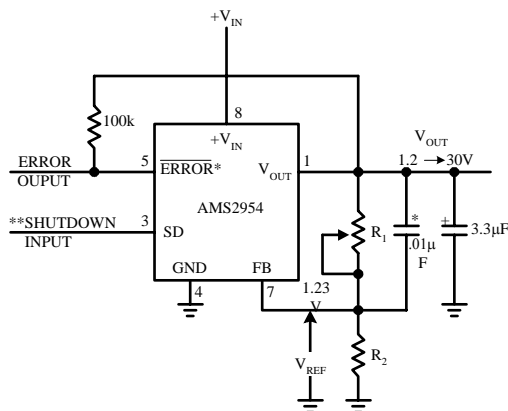

FIGURE 2. Adjustable Regulator
*When $V_{\text{IN}} \leq 1.3\text{V}$ the error flag pin becomes a high impedance, and the error flag voltage rises to its pull-up voltage. Using V_{out} as the pull-up voltage (see Figure 2), rather than an external 5V source, will keep the error flag voltage under 1.2V (typ.) in this condition. The user may wish to drive down the error flag voltage using equal value resistors (10 k Ω suggested), to ensure a low-level logic signal during any fault condition, while still allowing a valid high logic level during normal operation.
The AMS2954 may be pin-strapped for the nominal fixed output voltage using its internal voltage divider by tying the output and sense pins together, and also tying the feedback and V_{TAP} pins together. Alternatively, it may be programmed for any output voltage between its 1.235V reference and its 30V maximum rating. As seen in Figure 2, an external pair of resistors is required.